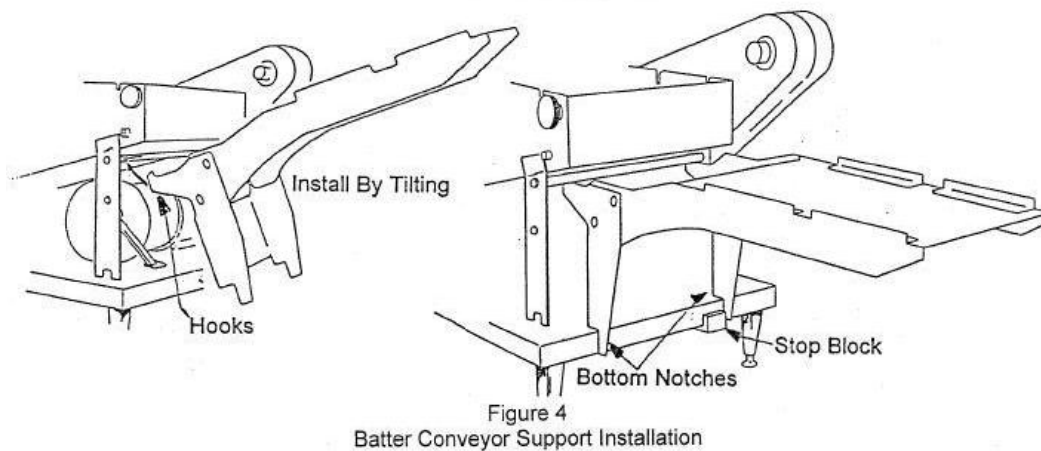

Figure 4
6.2.2 Batter Conveyor Support Assembly (See Figure 4)